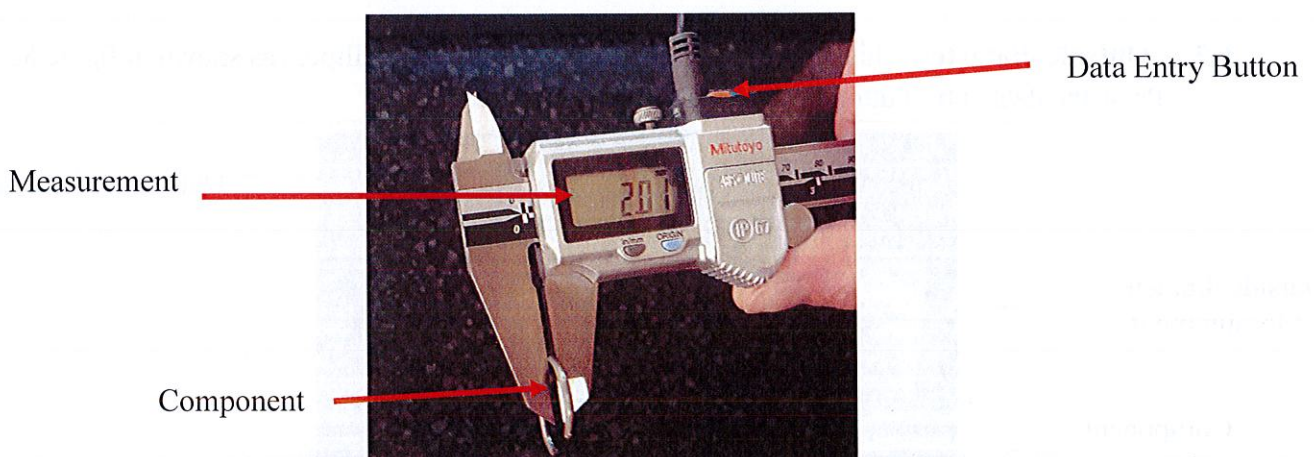

Figure 10. Vernier callipers measuring the material diameter.
6.2.7. Material diameter. This dimension is checked with Vernier callipers. Press the data entry button on the Vernier to send the reading to MeasurLink. See Figure 10.